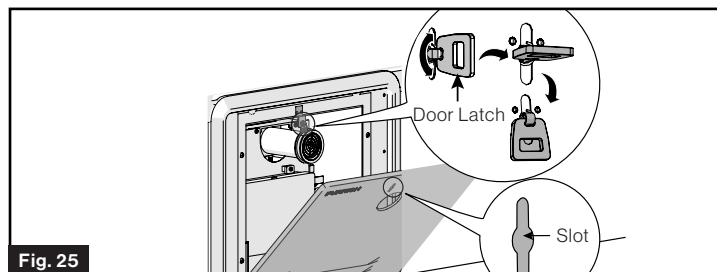

Fig. 25
5. Align the latch on the flange with the slot on the door, then push the door and rotate the latch to lock the door into place. (Fig. 25)
- Step ①: Pull and rotate the lever 90° to lock the latch.
- Step ②: Turn down the folding latch to lock.